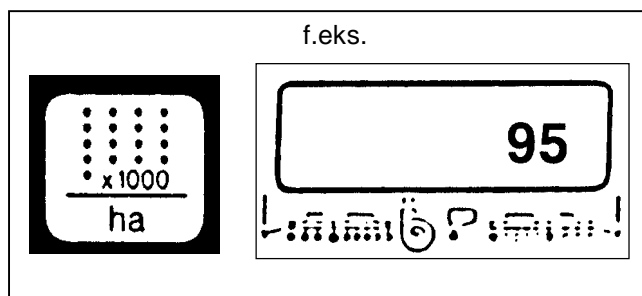

Fig.5
4.2.5 Tast "Antal frø/ha" (fig.5)